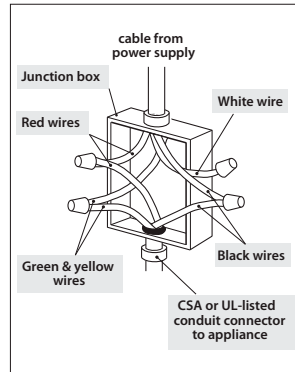

Fig. 4
- 7b Terminate the neutral (white) wire in the junction box (Fig. 4).
- 7c Terminate the neutral (white) wire in the junction box (Fig. 4).
- 8c Connect the green cooktop cable wire to the green grounding wire in the junction box (Fig. 4).